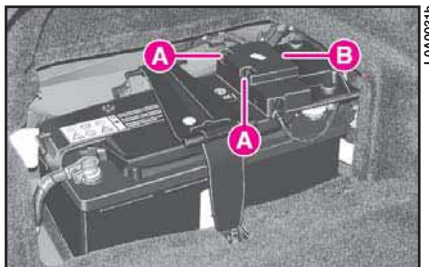

fig. 2
4) Press flanges **A** (fig. 2) and remove the cover **B**.